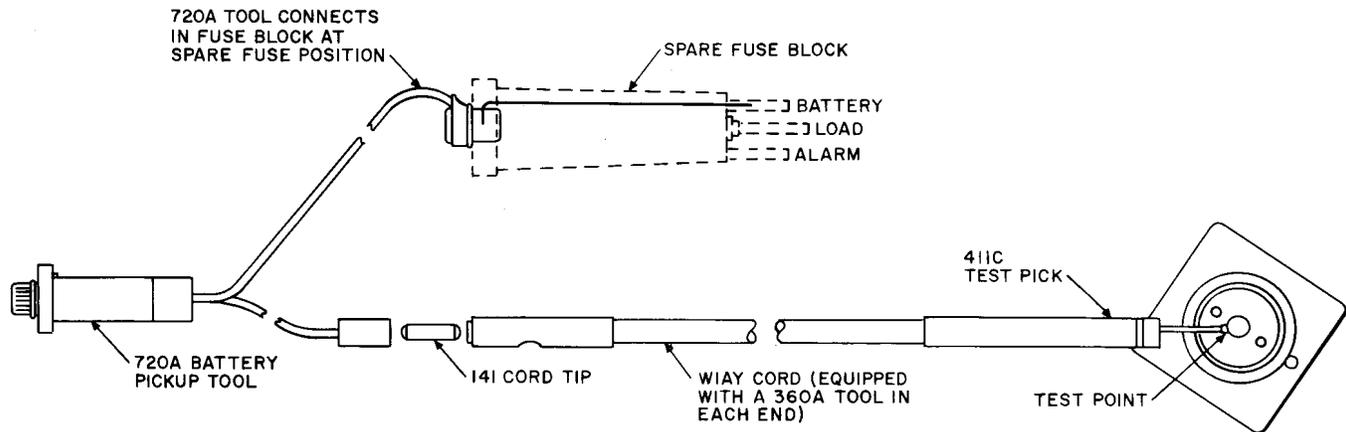

Fig. 13 → Fuse Alarm Testing Cord-Tool Connection ←
(2) Prepare the alarm test cord by connecting one end of the WIAY testing cord to the 141 cord tip and 720A voltage pickup tool. (The KS-6278 connecting clip may be used to replace the 720A voltage pickup tool.) On the opposite end of the WIAY testing cord, connect the 411C test tool (see Fig. 13).